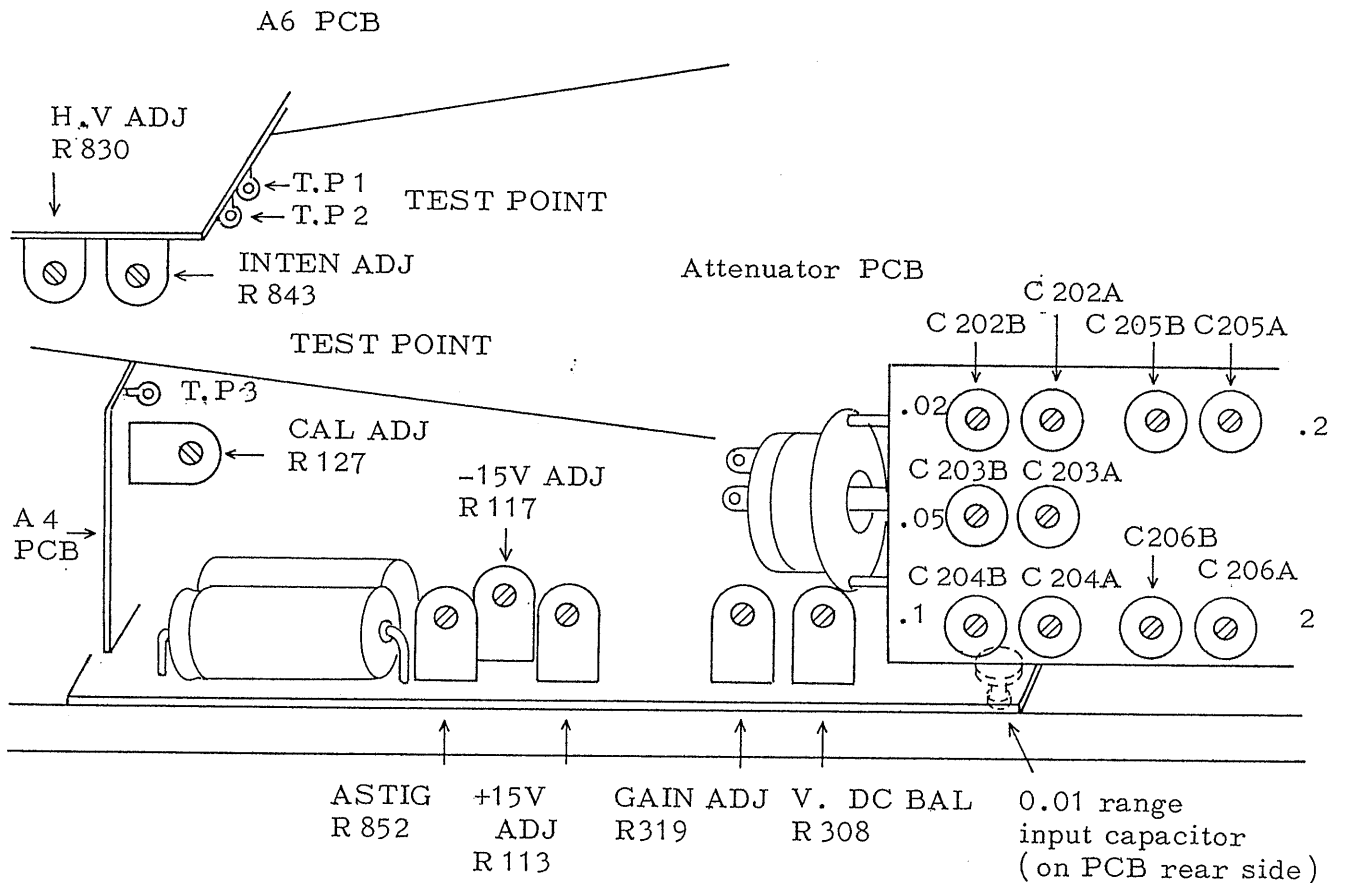

Fig. 5-4
First, adjust R117 (Shown in Fig. 5-4) for -15V with a screwdriver.
- (1) Turn R843 (INTEN ADJ) in Fig. 5-4 fully clockwise.
- (2) Adjust the voltage at the test point TP 1 or TP 2 to be -1150V by rotating R830 (HV ADJ).
- (3) Turn the INTENSITY knob on the front panel fully clockwise. (maximum intensity position)
- (4) Adjust R843 (INTEN ADJ) to make the voltage between TP 1 and TP 2 1.5V.
R127 shown in Fig. 5-4 is a semi-fixed resistor for adjusting output voltage at CALIBRATOR terminal. When the test point TP 3 (Fig. 5-4) is connected to the chassis or the GND terminal, 1 kHz generator stops, and DC voltage only is obtained at the CALIBRATOR output terminal. Adjust R127 for 500mV by means of an accurate voltmeter, and 50mV adjustment is also automatically attained.
- (1) Set the VOLTS/CM switch to 0.01V.
- (2) Set the VARIABLE knob to CAL'D.
- (3) Feed a 1 kHz square wave of 50mVp-p (or calibrated signal from CALIBRATOR terminal) to the vertical input terminal.
- (4) Adjust R319 shown in Fig. 5-4 so that vertical amplitude is 5 cm.
For this switch, adjust input capacitance and phase characteristic simultaneously by turning the trimmer capacitor on the attenuator PCB (Shown in Fig. 5-4) by means of a screwdriver.